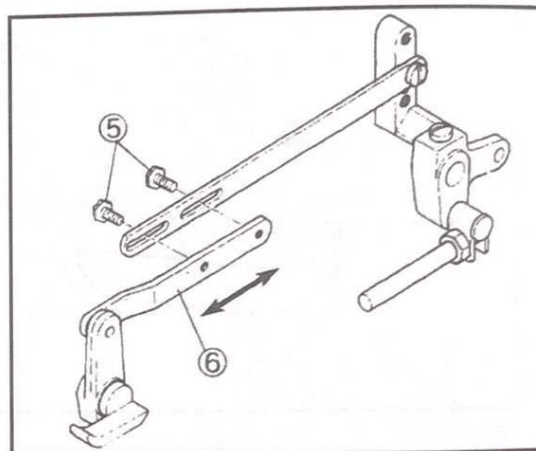

Fig.6
- (2) 放鬆壓腳連接桿螺絲⑤。(Fig.6)
- (3) 移開壓腳連接桿(短)⑥右邊或左邊去調整間隙。
- (2) Loosen the screw ⑤ of the presser foot lifter lever link (long). (Fig. 6)
- (3) Move the presser foot lifter lever link (short) ⑥ right or left to adjust the clearance.